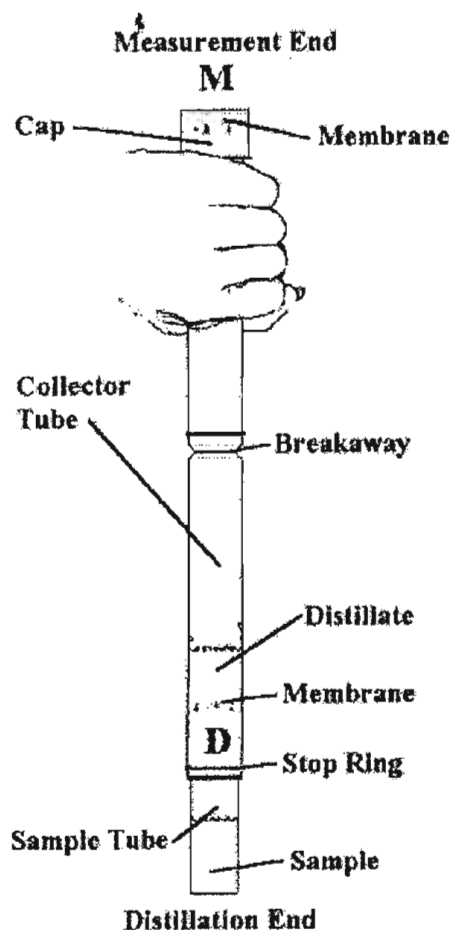

Figure 1. Collector Tube
- 5.2 Prepare User-Fill collector tubes: with the M end up, use automatic pipette to add 1.59 ml of 0.95N NaOH to each collector tube, place a membrane filter on the top and cap it before using (Figure 1).